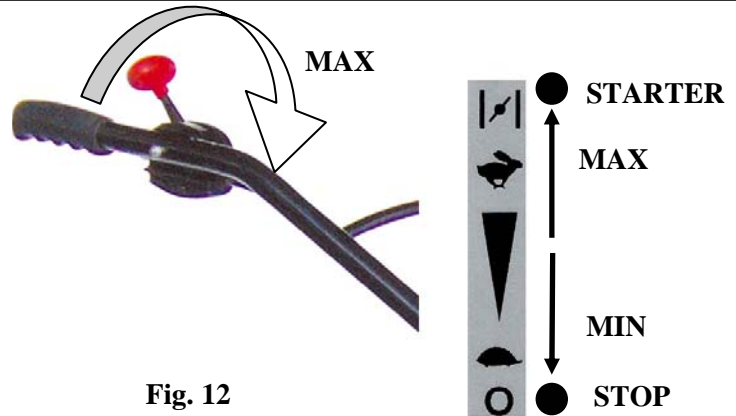
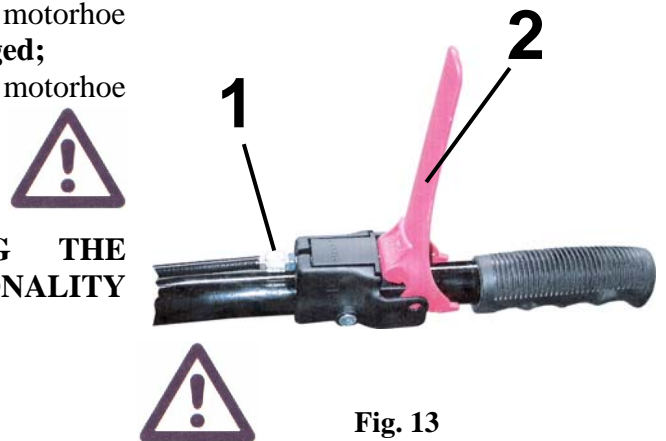
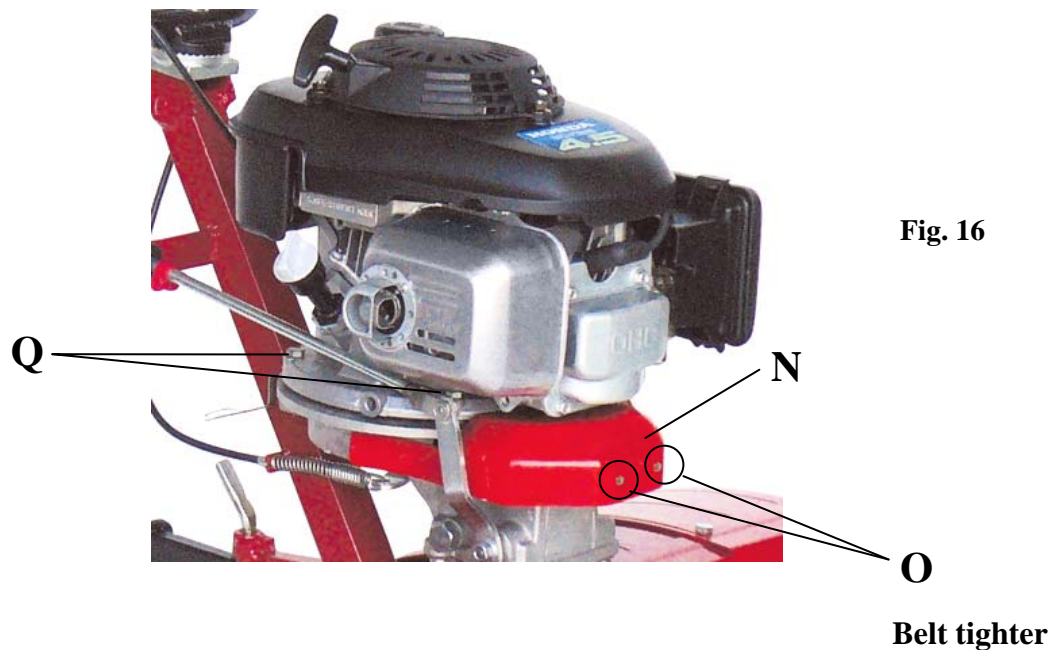
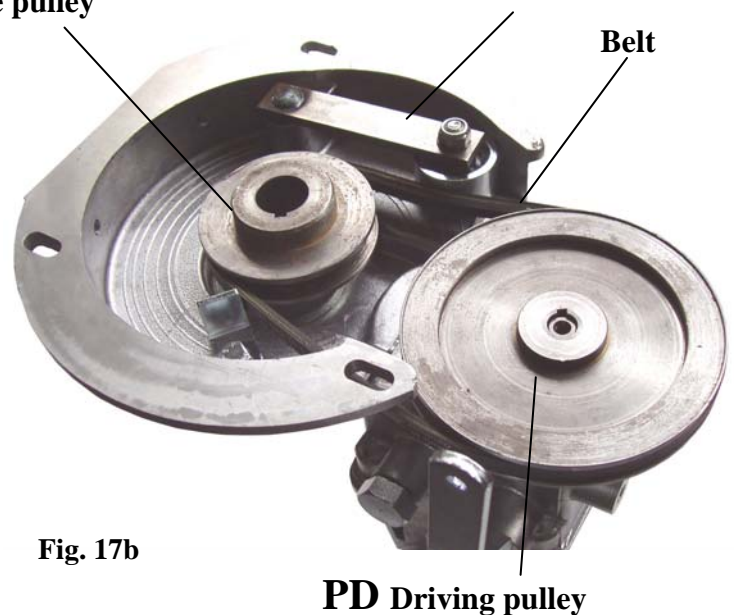

Fig. 12
Fig. 13
Fig. 16
Fig. 17b
- Lever (**part.2 fig.13**) down: transmission engaged, motorhoe goes **forward** or **back**, depending from the speeds **engaged**;
- Lever (**part.2 fig.13**) up: transmission disengaged, the motorhoe stops;
- For adjust the belt's tension, act on the adjuster (**part. 1 fig. 13**).
1. Keep the clutch lever (**part. 2 fig.13**) up.
3. Speed up the engine by the red hand (**fig.12**) and put down gradually the clutch lever (**part. 2 fig.13**) for putting in movement the motorhoe..
Remove protection cover (**fig. 16 Part. N**) unscrewing the 2 screws (**fig. 16 Part. O**). Verify that belt (**fig. 17b**) is well pulled with clutch lever down (**fig. 13 e 17a Part. 2**) while with the same lever up, belt is free to move inside pulleys (**fig. 17b Part. PM e PD**). On the contrary it is necessary put the engine in its right position unscrewing its screws (**fig. 16 Part. Q**) by sliding it along slots of its support. Done this adjustment fix the engine and fit the protection cover again (**fig. 16 Part. N**).